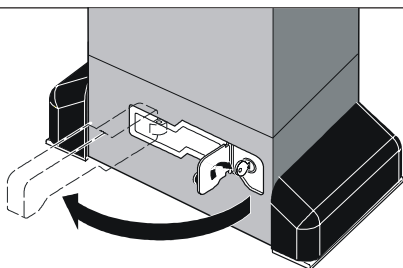

Fig. 49
- 2) Turn the key clockwise and pull the release lever as shown in Fig. 49.